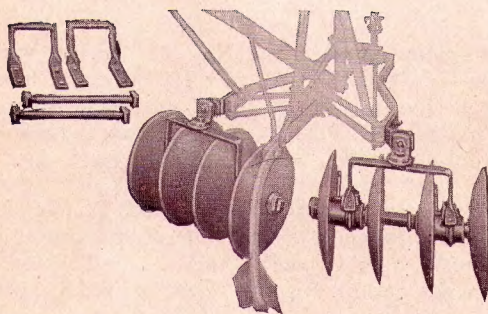

Fig. 517-8
- No. 604EL—No. 600EL less Cultivator Standards and Points and Horse Hoe Attach., plus Fig. 517-8 and No. 83 Point. (8 discs).